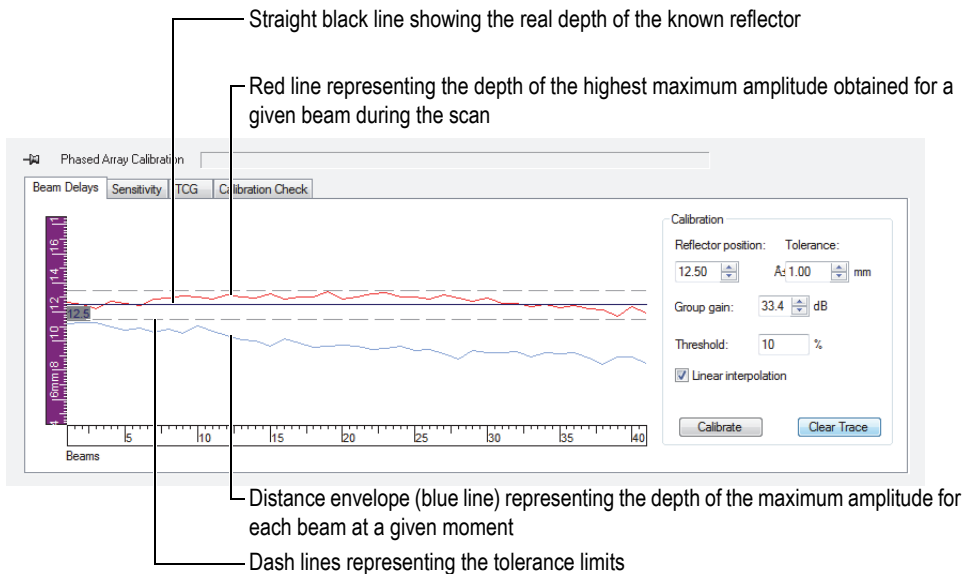

Figure 4-20 Curves for the beam delay calibration
a) Select the **Beam Delays** tab (Figure 4-20 on page 116).